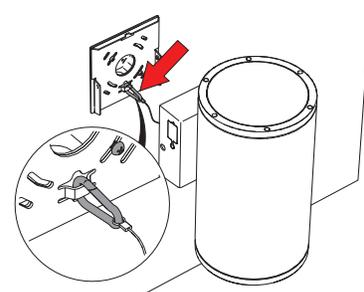

Figure 3
3. Hook the carabiner to the quick mount plate [Figure 3] and follow the **Wiring Diagram** on Page 5 to connect the fixture leads to the supply leads. Tuck any extra length of wire into the junction box.